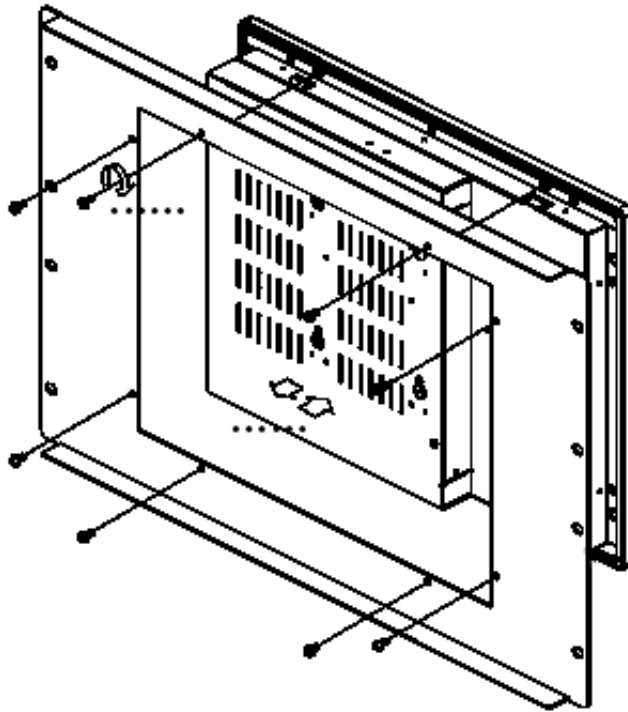

Figure 5-9: Secure the Rack Mount Kit
Step 4: Secure the rack mount kit to the monitor by inserting and tightening the retention screws (Figure 5-9).